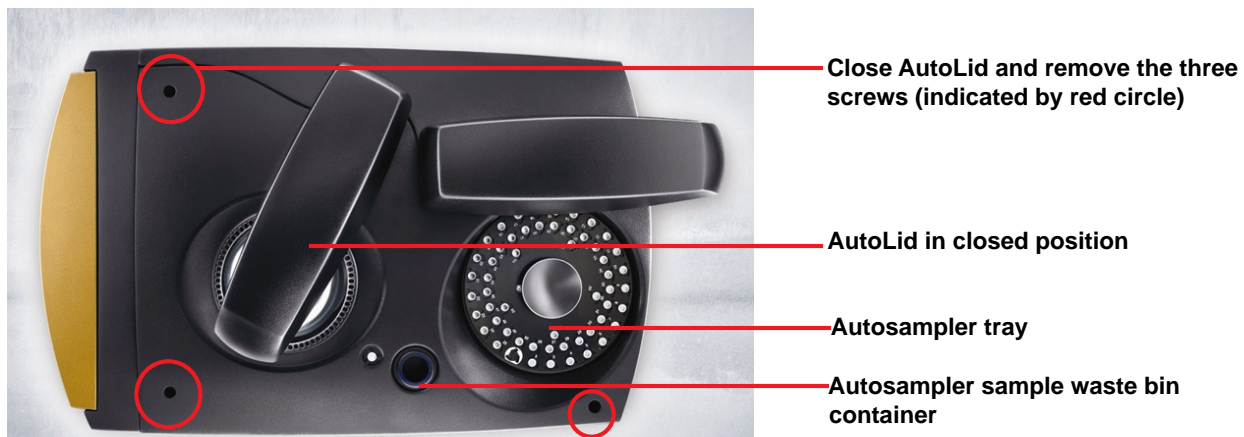

Figure 21 Discovery DSC top cover.
- 2 Press the **Lid**  button on the Discovery DSC keypad to close the AutoLid, as shown in Figure 21.
- 5 Remove the Autosampler tray and Autosampler sample waste bin container from the top cover and move the Autosampler arm out of the way. Refer to Figure 21 for locations.